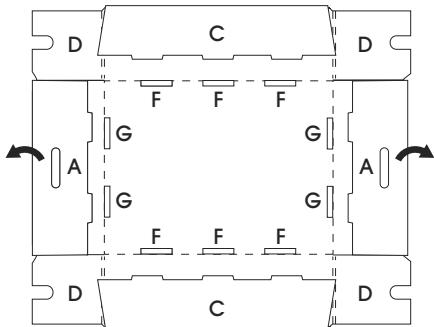

Figure 1
1. Place unassembled box on a flat surface with flaps facing up. (See Figure 1)